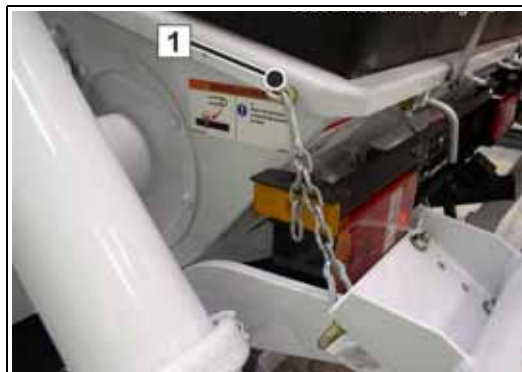

Fig. 61 Chain fastener
- Secure the underride protection using the chain fastener on the left-hand side of the hopper (**Fig. 61**).